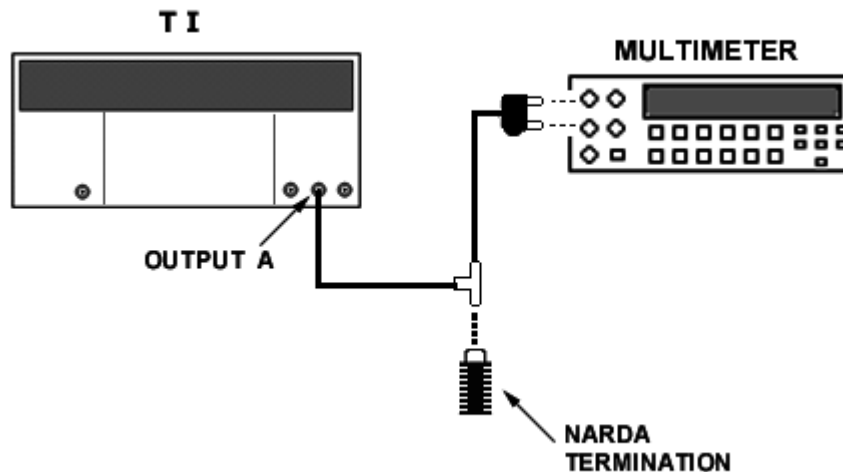

Figure 3. Output - equipment setup.
- (1) Connect equipment as shown in figure 3.
- (2) Press pushbuttons and enter data as listed in (a) through (l) below: (Both channels for option 020).
- (2) Press pushbuttons and enter data as listed in (a) through (l) for both A and B channels.